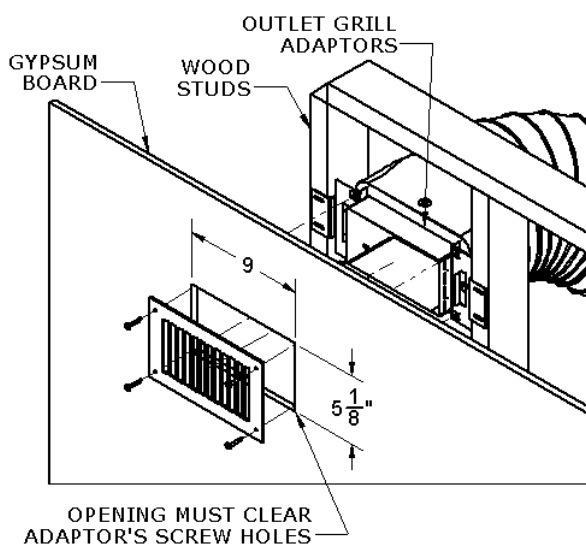
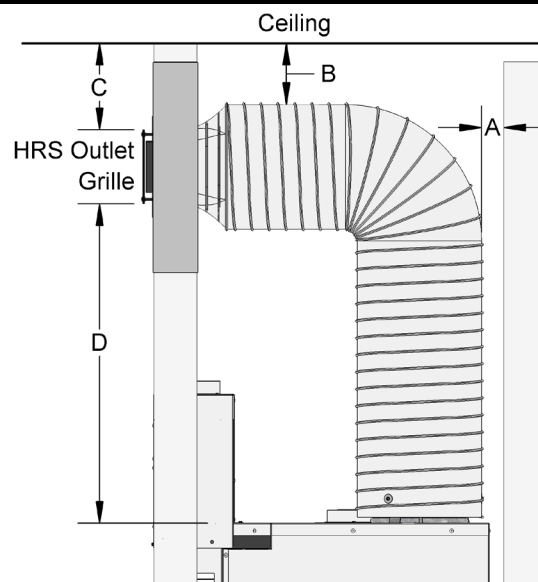

FIGURE 15 HRS HOT AIR OUTLET ROUGH OPENING
FIGURE 16 HRS OUTLET CLEARANCES (SEE TABLE 3)
Framing for the grills and wall finish material around the Hot Air Outlet Grills can be made of combustible material (e.g. wood studs and gypsum board). Refer to Figure 15.
3. Frame the location you wish to mount the hot air outlets (see Figure 15 and Figure 15). Make sure to respect all required clearances, see Figure 16 and Table 3.